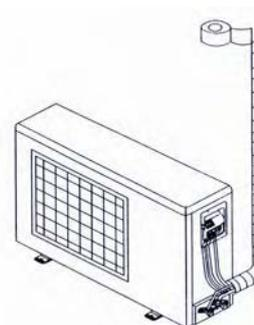

Fig.5
- (1) Use adhesive tape to bundle the connecting pipe and the cables together. To prevent condensate from overflowing out from the drainage pipe, separate the drainage pipe firm the connecting pipe and the cables.
- (2) Use thermal insulation tape to wrap the pipes from the bottom of the outdoor unit until the upper end of the pipe where the pipe enters the wall. When wrapping thermal insulation tape, the later circle of tape must cover half of the front circle of tape (Refer to Figure 5).
- (3) Wrapped pipe must be fixed to wall using pipe clamps.